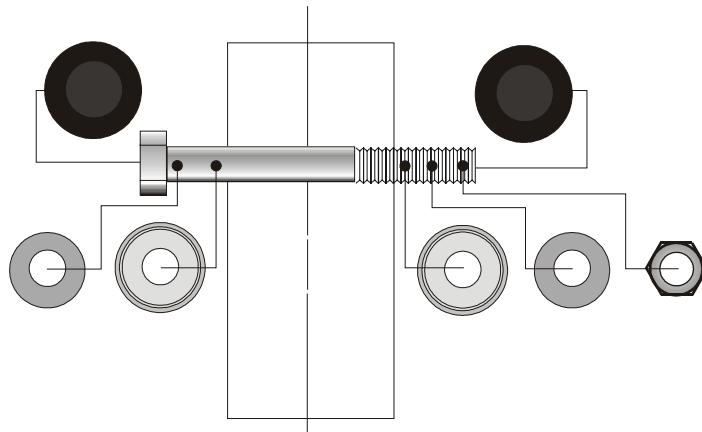

Figure 3. Configuration for 2-3/4" and 3" bolts.
- Bolt on the teardrop pulleys** above the benches (see Figure 3) using four 3/8" x 2-3/4" hex head bolts. Include the 3/8" flat washer, end cap washers, end caps and 3/8" Nyloc (locknut). Use the bolt configuration shown in the figure. You may wish to use a pinch bar to align the bolt holes.
The part shown in Hardware Figure 3 is the 9/16" cable jam nut that's used to secure the cables to the weight stacks.
Hardware Figure 3. Cable jam nut.